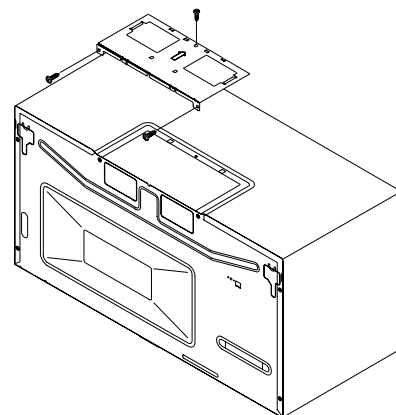

Fig. 10
1. Remove and save 2 screws from back edge and 1 screw from the top center of Fan Cover Bracket. Remove Fan Cover Bracket by sliding it in the opposite direction of the arrow on the Fan Cover Bracket, as shown in Figure 10.
**(C) VERTICAL EXHAUST: Outside Ventilation**
1. Remove and save 2 screws from back edge and 1 screw from the top center of the Fan Cover Bracket. Remove Fan Cover Bracket by sliding it in the opposite direction of the arrow on the Fan Cover Bracket as shown in Figure 10 on page 5.